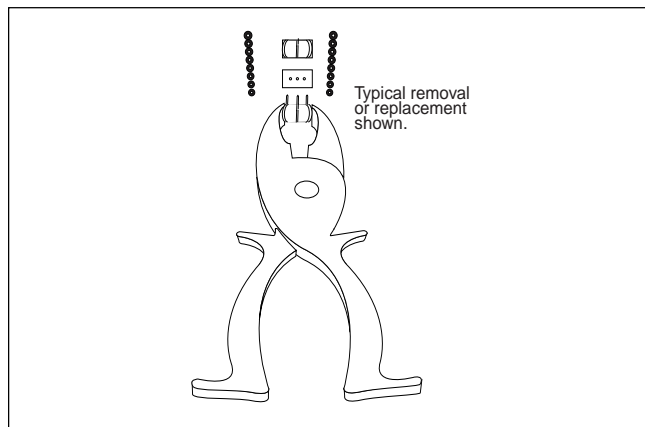

Figure 15. Surge Arrester Gas Tube Replacement
2. Grasp one gas tube and remove it using the gas tube pliers supplied with the cabinet, see **Figure 15**.